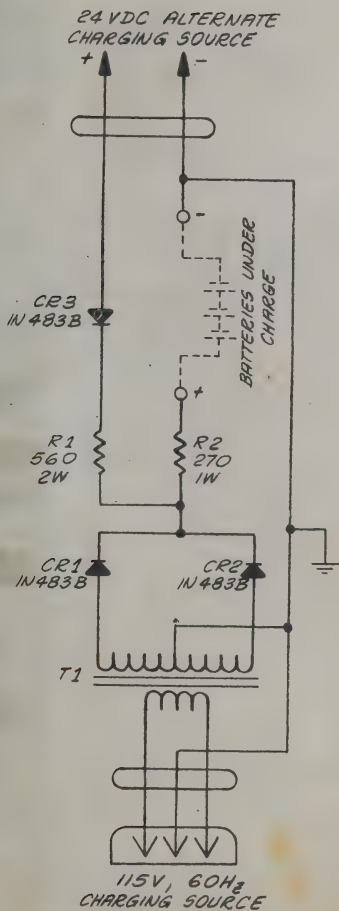

Figure 4-6. Battery Charger Schematic
d. Battery Charger - The battery charger, Figure 4-6, can be used on 115 V AC or 24 V DC. The four batteries are charged in a series parallel configuration. When operated from a 115 V AC source, transformer T1, diodes 4CR1, 4CR2 and current limiting resistor 4R2 provide the necessary full wave rectified DC voltage for charging the batteries. When the charger is operated with an input voltage of 24 V DC, diode 4CR3 and current limiting resistor 4R1 provide the charging circuit for the batteries. The diodes also prevent the batteries from discharging into the charging source when they are fully charged.